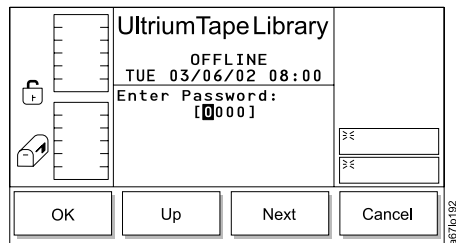

Figure 252. Enter Password Dialog
7. Press the button below the **Yes/No** softkey until the checkmark disappears from the checkbox beside the Enable Security field. The Enter Password Dialog displays (see Figure 252 on page 187).